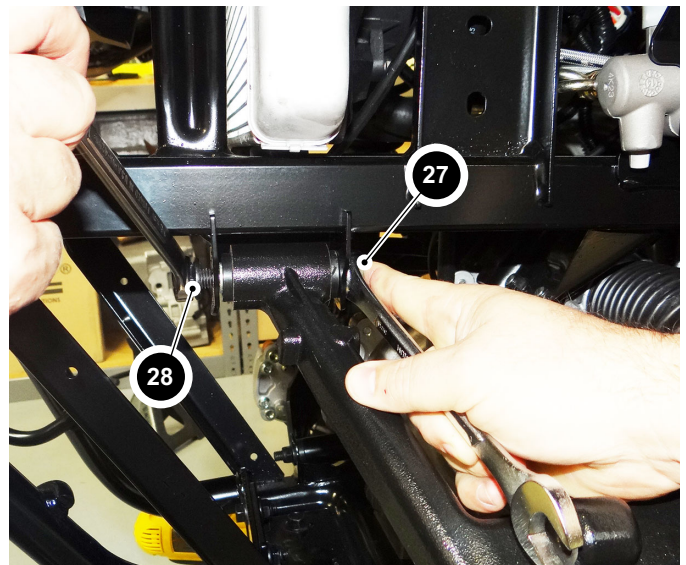

Fig. 17 Upper Control Arm Removal
6. Remove the nut (33), washers (37) and bolt (46) that secure the stabilizer link to the upper control-arm (Ref. Fig. 17). Check the rubber bushings for deterioration.